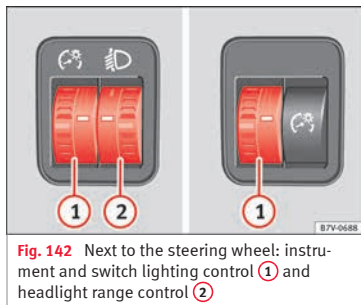

Fig. 142 Next to the steering wheel: instrument and switch lighting control ① and headlight range control ②
① Instrument and switch lighting
When the headlights are switched on, the brightness of the instruments and switch lighting can be regulated by turning the switch »» **Fig. 142 ①**.
② Headlight range control
The headlight range control »» **Fig. 142 ②** is modified according to the value of the headlight beam and the vehicle load status. This offers the driver optimum visibility and the headlights do not dazzle oncoming drivers »» .
To reset, turn switch »» **Fig. 142 ②**: